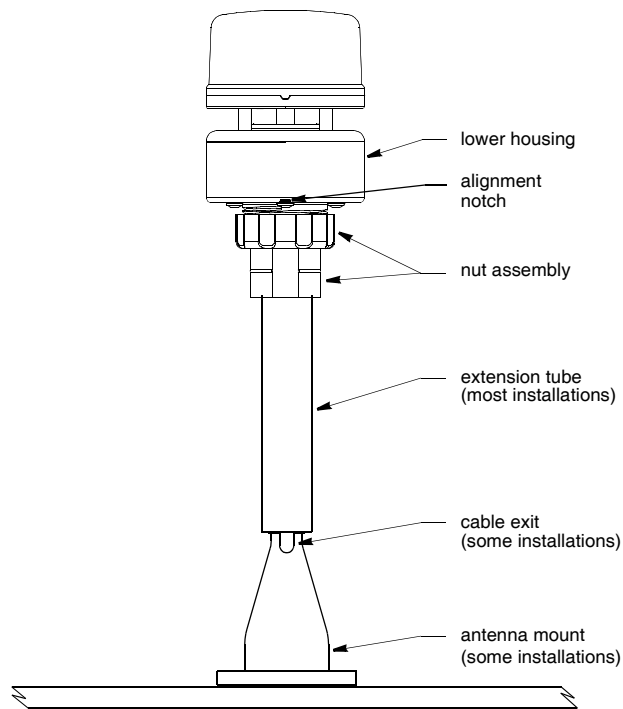

Figure 4. Installation (150WX shown)
2. Position the mounting hardware at a 90° angle to the mounting surface. If necessary, use shims to make the mounting surface level (see Figure 4).
6. Screw an extension tube onto the antenna mount if desired (see Figure 4).
4. To accurately measure the wind direction, be sure to orient the alignment notch correctly. Grasp the *lower housing* of the WeatherStation Instrument below the reflector plate and hold it in the proper position (see Figure 4).
5. Slide the captive nut upward and screw it onto the lower housing of the WeatherStation Instrument (see Figures 4 and 5). **Hand tighten** only. Do not over-tighten. *Be careful not to rotate the WeatherStation Instrument changing the alignment or loosen the nut assembly from the antenna mount/extension tube.*